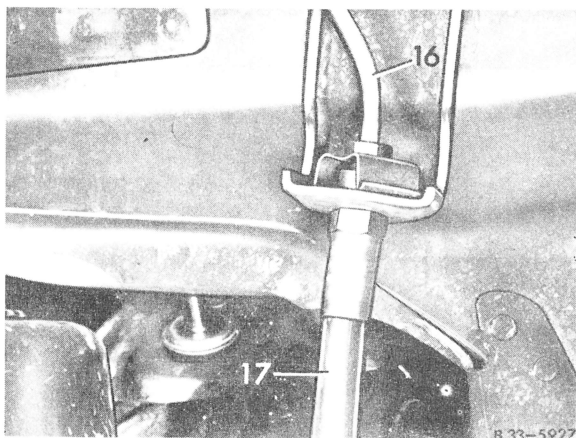

Fig. 3
- 7 Separate brake lines and brake hoses from each other (Fig.3). Close connections with rubber plugs.